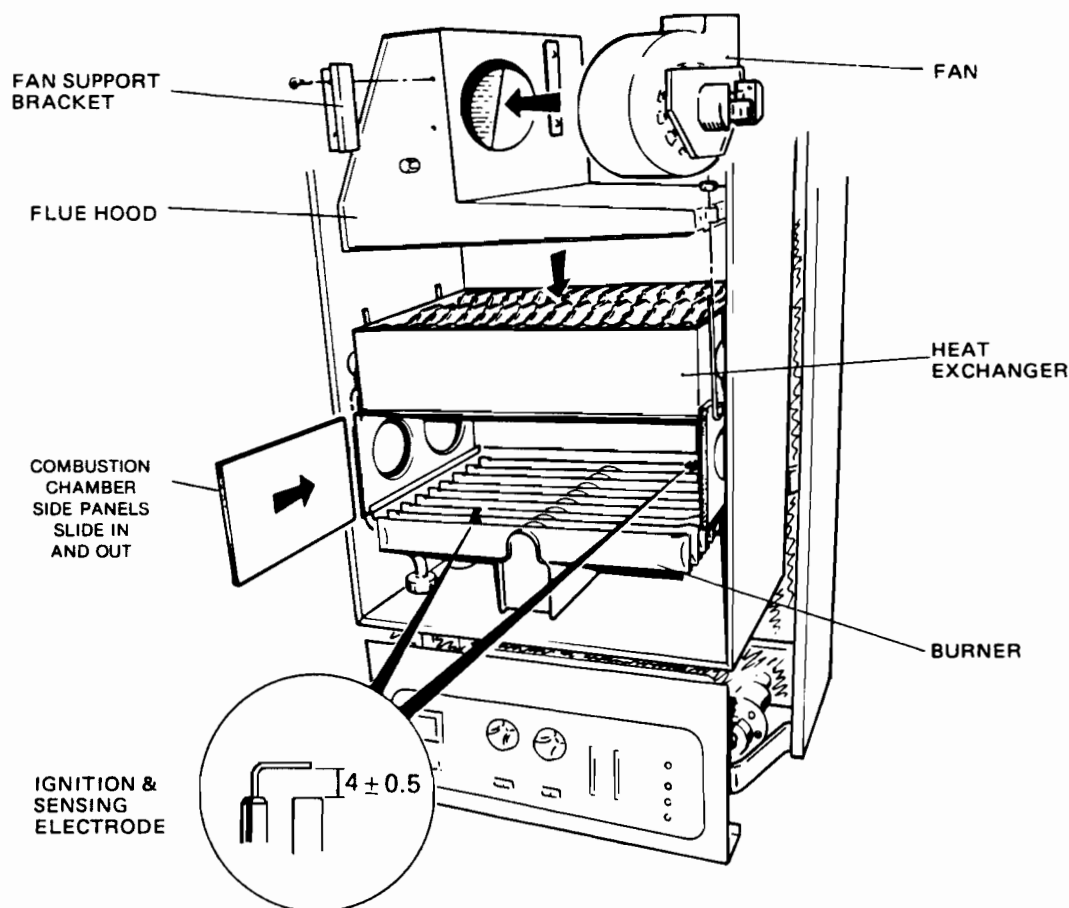

FIG. 32
(See Fig. 32)
- e) Inspect the main burner and remove any deposits with a soft brush. Check the electrodes for damage or deterioration, clean or renew as necessary. Ensure that the spark gaps are correct to dimensions specified in Fig. 32.
(see Fig. 32)
17. MAIN BURNER (see Fig. 32)